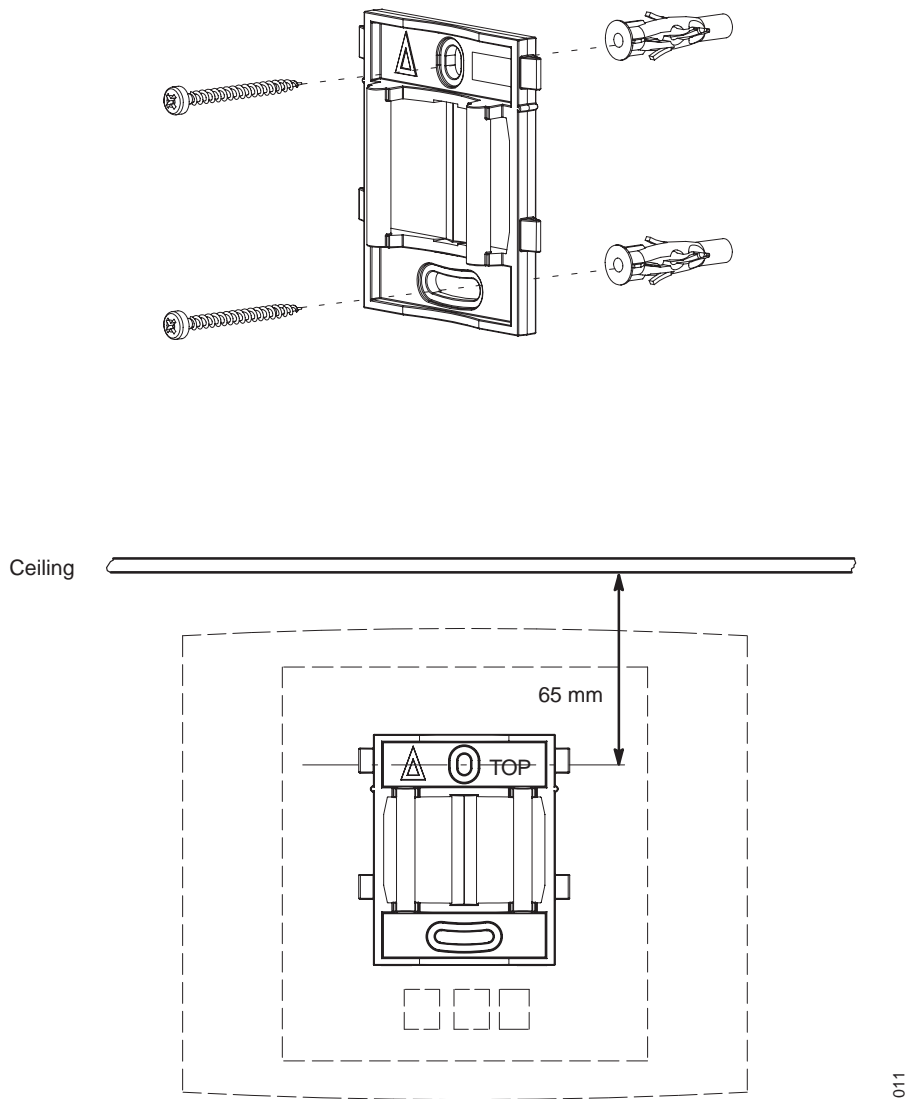

Figure 4. Fixing the mounting bracket to a wall
Fix the mounting bracket (see figure 4 on page 20) to the wall as follows:
- 1 Hold the mounting bracket with its flat side against the wall with the text 'TOP' upwards and mark the two holes. The minimum distance between the upper hole and the ceiling or any object above the base station must be at least 65 mm, see Figure 4. If the distance is less than 65 mm, the base station cannot be slid onto the bracket.